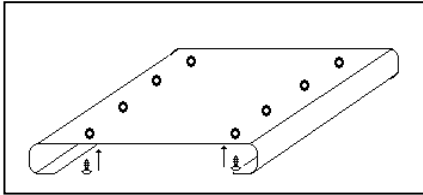

Fig. 1
3. Screw the base plate of the mechanism to the desk top using the #12 x $5/8$ " long screws that are provided with the mechanism. Do not over tighten the screws. (Fig. 1)